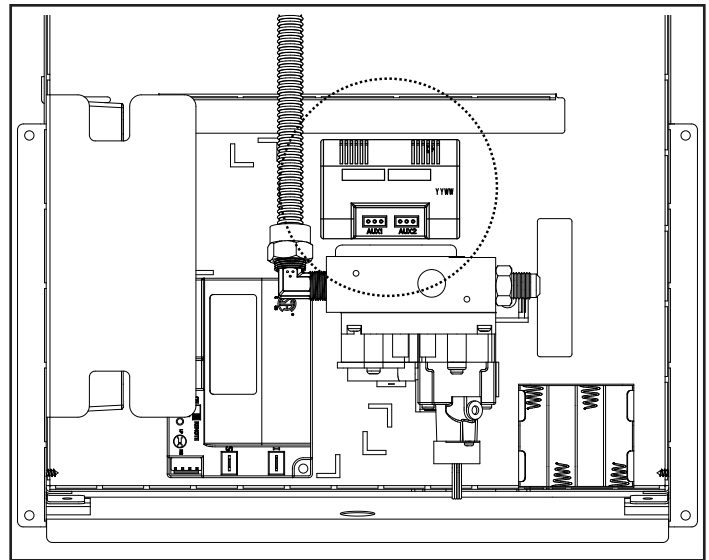

Figure 8.3 - Auxiliary Box
1. Install the AUX200/AUX300 auxiliary box into the stove. The auxiliary box is intended to be installed in the component tray directly behind the gas valve. See Figure 8.3.